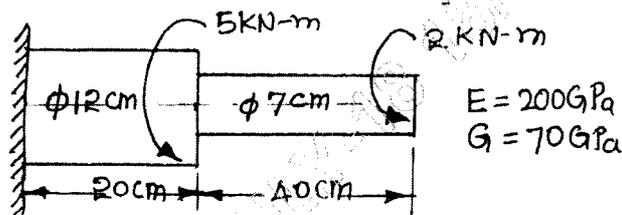

Fig.Q6(b)
b. For the circular stepped shaft shown in Fig.Q6(b) determine stresses and angle of twist. (10 Marks)